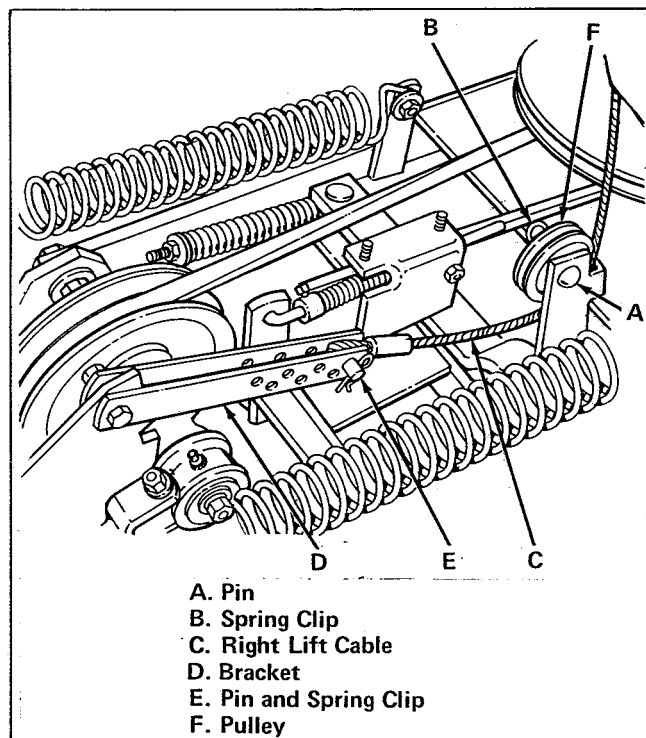

Figure 5. Attach Right Lift Cable
13. Remove spring clip and pin (items A and B, figure 5) to remove pulley (item F).